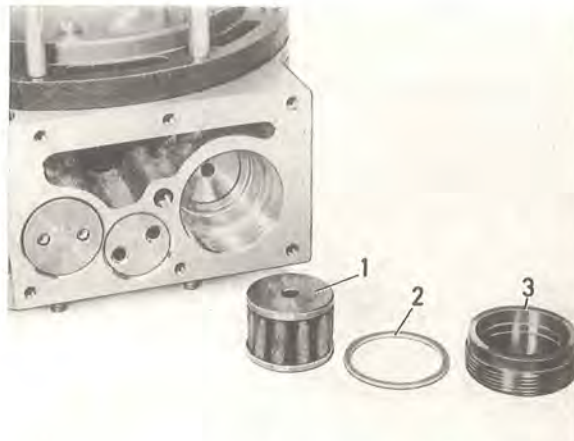

Fig. 4-46. Fine filter
2. Remove the plug and take out the seal and fine filter, see Fig. 4-46.